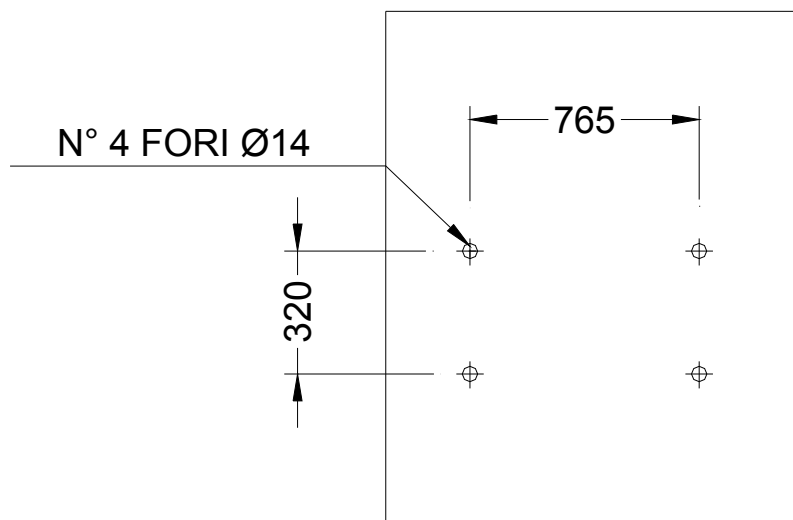

fig. 4
- ✓ Drill the required holes in the chosen wall as illustrated in fig. 4.